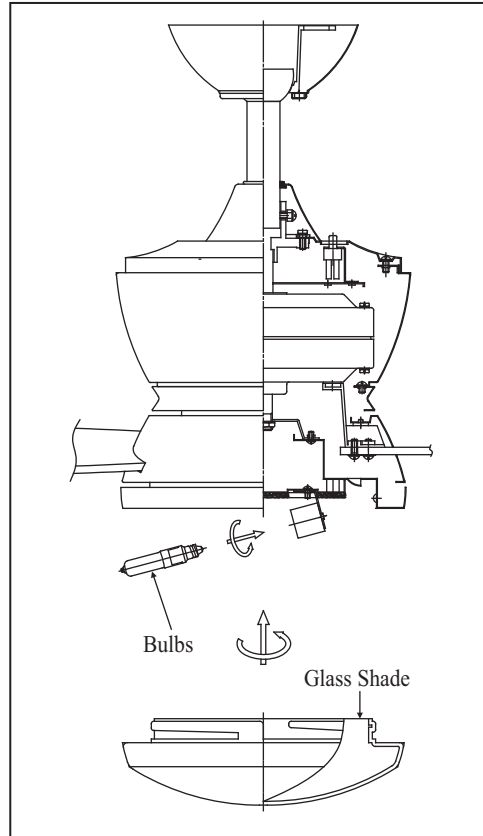

Figure 20
4. Install 100W halogen bulb (included). (Fig. 20)
5. Raise glass shade up against bottom of fan housing and secure it to fan by turning glass clockwise until snug. Do not overtighten. (Fig. 20)